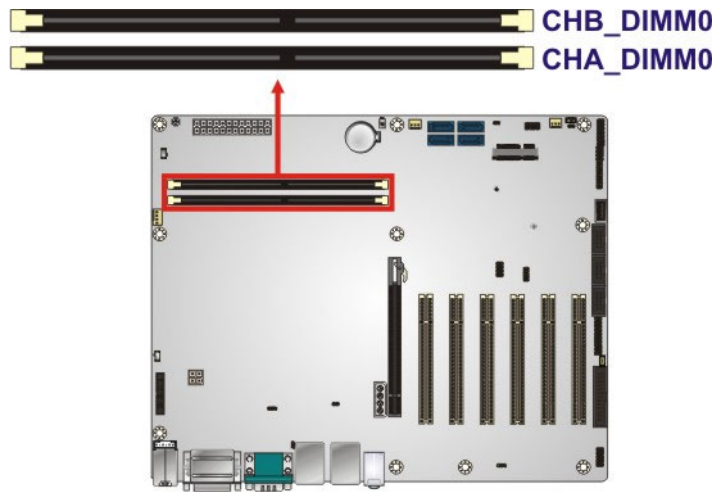

Figure 3-8: DDR4 DIMM Slot Locations
- CN Location:** See **Figure 3-8**